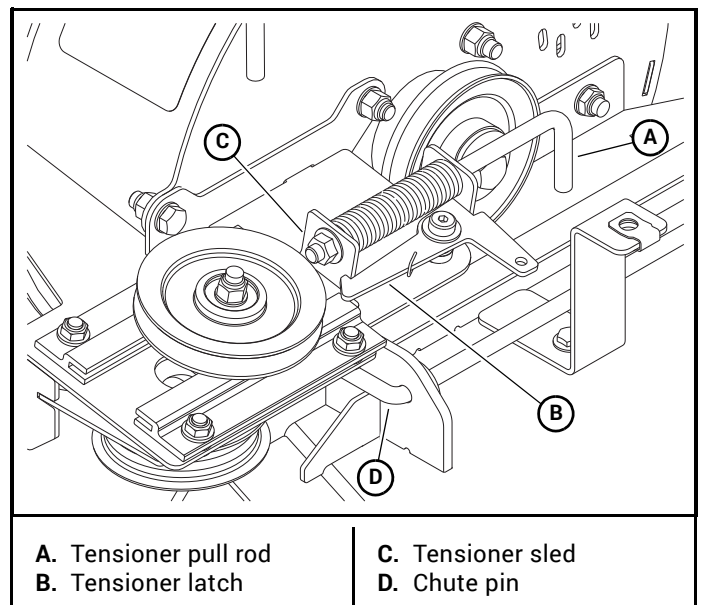

Figure 3-25
**IMPORTANT:** Make sure the head of the chute pin is pointing towards the blower unit. Figure 3-25